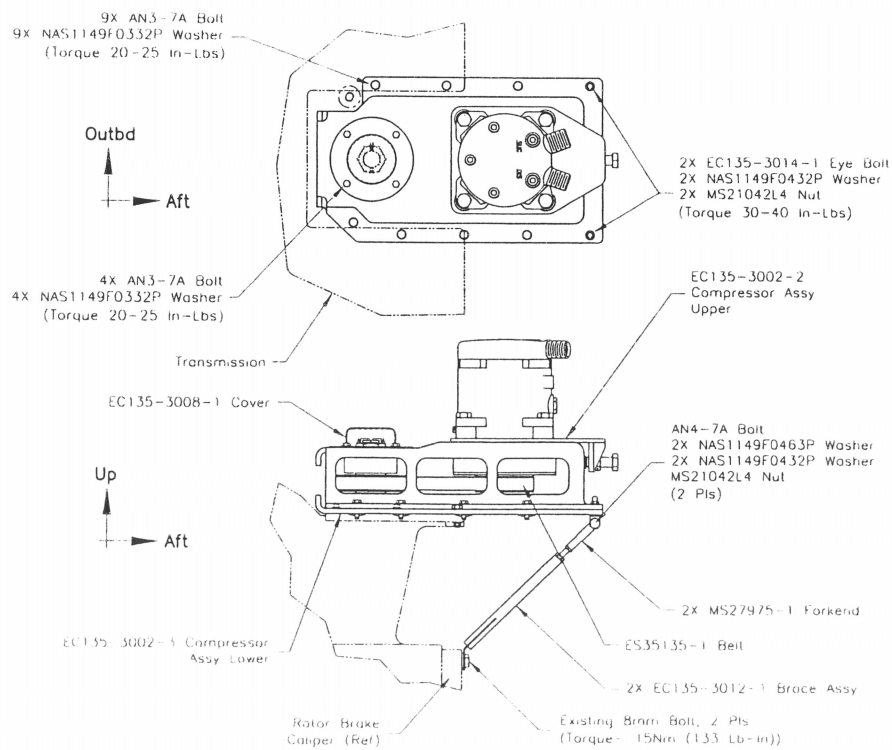

Figure 2-2
2. Reinstall the two (2), MS21042L4 Nuts & NAS1149F0432P Washers on the aft outboard support studs, and torque nuts to 30 to 40 inch lbs.
3. Reinstall the nine (9), AN3-7A Bolts & NAS1149F0332P Washers in the upper compressor mount assembly, and torque to 20 to 25 inch lbs.
4. Reinstall the four (4), AN3-7A Bolts, NAS1149F0332P Washers, and the new EC135-3008-1 Bearing Cover on to the upper compressor mount assembly, apply Pro-seal 870 or equivalent to both faying surfaces, and torque to 20 to 25 inch lbs. (See figure 2-2)